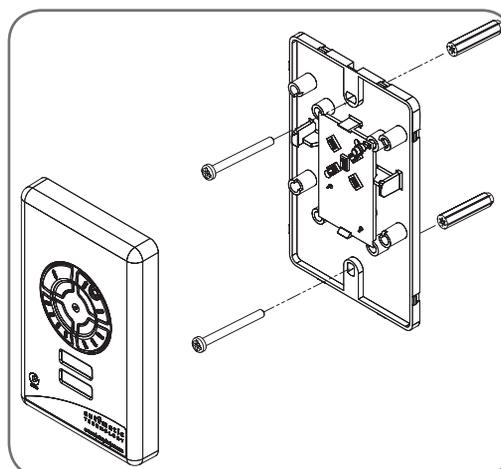

Fig 14.3
- Affix the base plate at a height of 1.5 metres within sight of the gate. Make sure that the position of the transmitter is out of reach of children and convenient to the customer (**Fig. 14.3**).